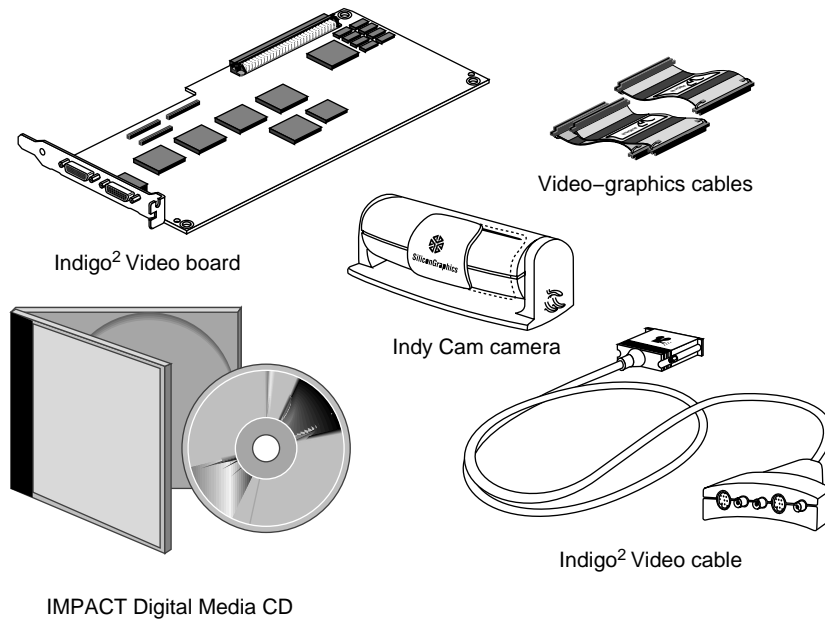

Figure 2-34 Indigo2 Video for IMPACT Package Major Components
- Indigo² Video for IMPACT option (marketing code D9-I2V-I) is a video collaboration bundle (see Figure 2-34). This option enables you to conduct video conferences (using the Indy Cam™), output graphics to videotape, display video in a graphics window, save (capture) video to the hard disk, and also provides direct analog input/output for NTSC and PAL support.